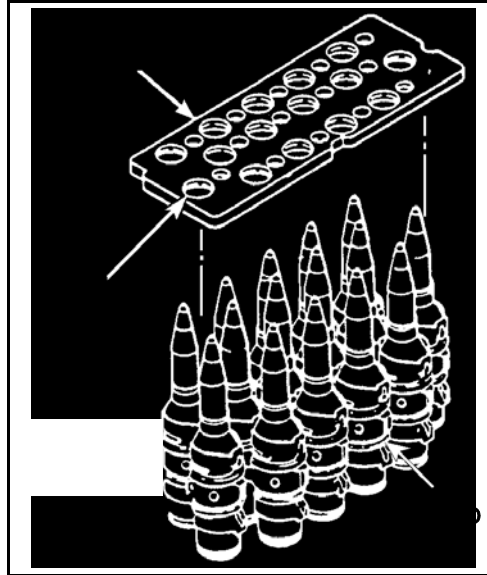

Figure 2. Separator.
- a. Form each belt into an “S” shape and use a separator (Figure 2, page 3-58).